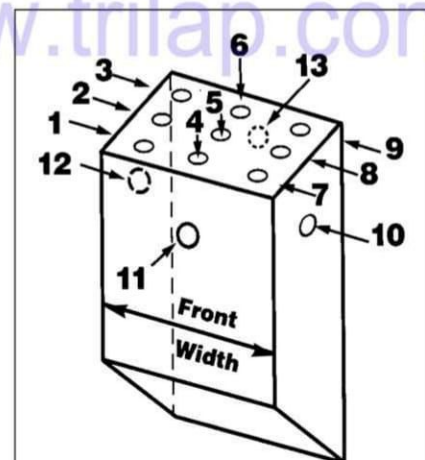

Figure 13. Typical Commutator Brush
Shunt locations by position number are illustrated in Figures 13 and 14. When specifying locations, it is important to orient the brush correctly as follows:
- Brushes with top and/or bottom bevels: see Figure 13.